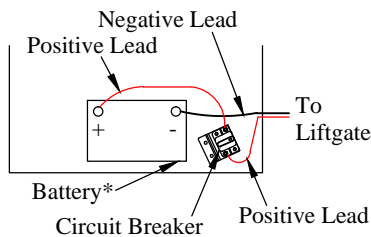

Figure 19: Circuit breaker bracket.
1. **Install** the circuit breaker on the circuit breaker bracket with 1/4" screws and nuts (Figure 19).